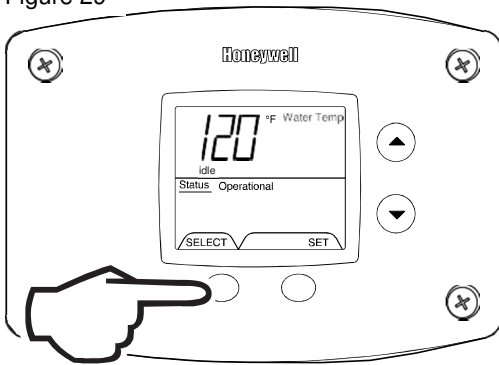

Figure 30
2. Water Temperature Average (Displays average if there are two sensors – sensor temperature displayed if single sensor is used) (Fig. 30).